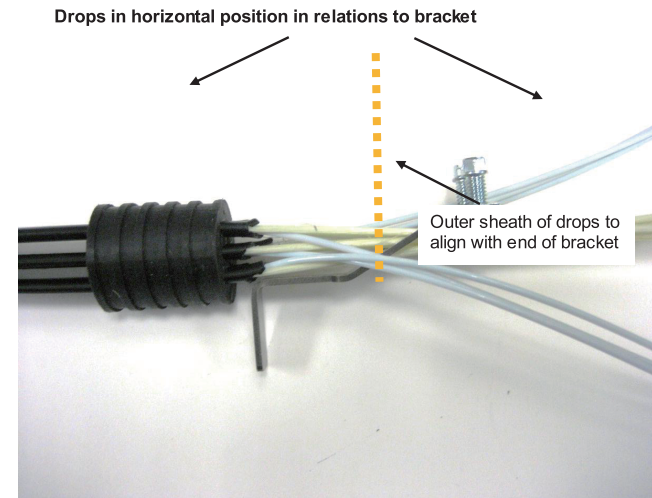

Figure 6
Slide bracket along strength members until the outer sheath of the drops align with the end of the bracket. (Figure 6)
**IMPORTANT: The six port drop seal needs to be positioned so that the drops are in horizontal position with regards to the strength member bracket. (Figure 6)**